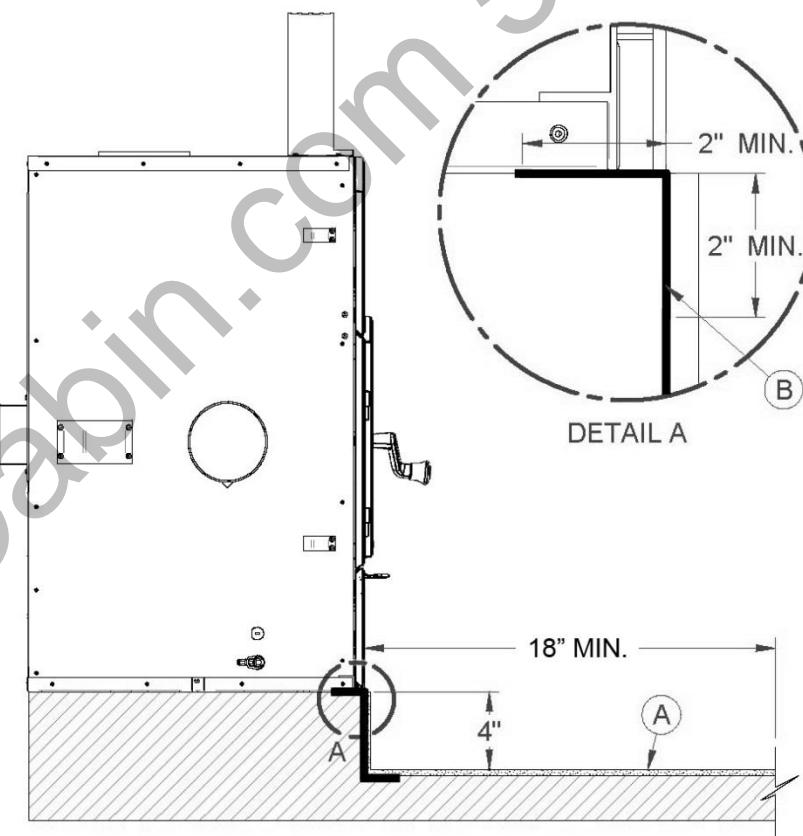

Figure 9
It is possible to eliminate the R value by elevating the unit from 4" above the floor (see Figure 9), but the joint between the extension of the hearth and the fireplace must be protected by a non-combustible material. For example, a sheet metal (not included) as illustrated in Figure 9 (B). Please note that a combustible floor protection of at least 18" long must be installed in front of the fireplace as illustrated in Figure 9 (A).